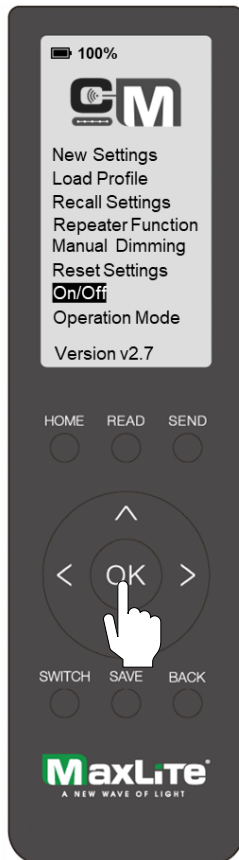

Fig 7A
1. Once the **HOME** screen is displayed, navigate to **ON/OFF**, highlight it, and press **OK** to enter the ON/OFF menu (Fig. 7A).